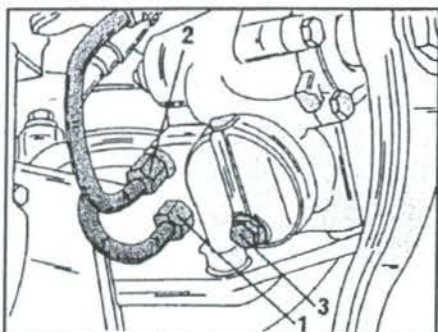

Fig. 6.6 – The pressure pipe (1) and the return pipe (2) are connected as shown. The plug (3) can be removed to drain the steering.
- Open the fluid reservoir and remove the filter insert. Using a syringe, remove the fluid from the container. The system can also be drained by opening the plug next to the two hydraulic pipes in Fig. 6.6. In this case start the engine and let it run for approx. 10 seconds, until pump and reservoir are drained. Catch as much fluid as possible from the draining point.
- Refer to Fig. 6.6 and disconnect the high pressure pipe (1) and the return pipe (2). Close the open connections in suitable manner to prevent entry of foreign matter.
- Fit the drain plug (3) in Fig. 6.6 and tighten to 5.0 – 5.5 kgm (36 - 40 ft.lb.) and refit the two steering fluid pipes.